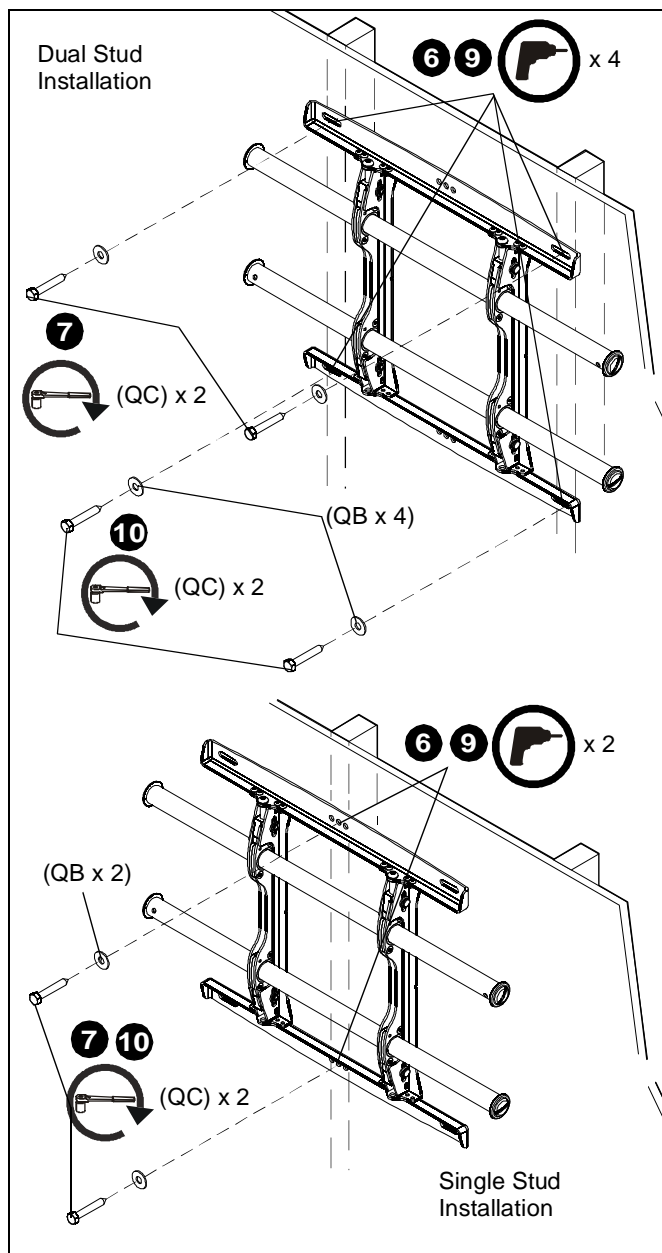

Figure 3
7. Use two 5/16 x 2-1/2" lag bolts (QC) and two 5/16" flat washers (QB) [one lag bolt and washer for single stud installation] to attach top of mount to wall. (See Figure 3)
8. Mark the attachment points for the lower mounting slots, making sure the attachment points are located on the studs. (See Figure 3)
9. Drill 7/32" (5.5mm) pilot holes at markings for lower mounting holes. (See Figure 3)
10. Use two 5/16 x 2-1/2" lag bolts (QC) and two 5/16" flat washers (QB) [one lag bolt and washer for single stud installation] to attach the mount to the wall through the lower mounting holes. (See Figure 3)